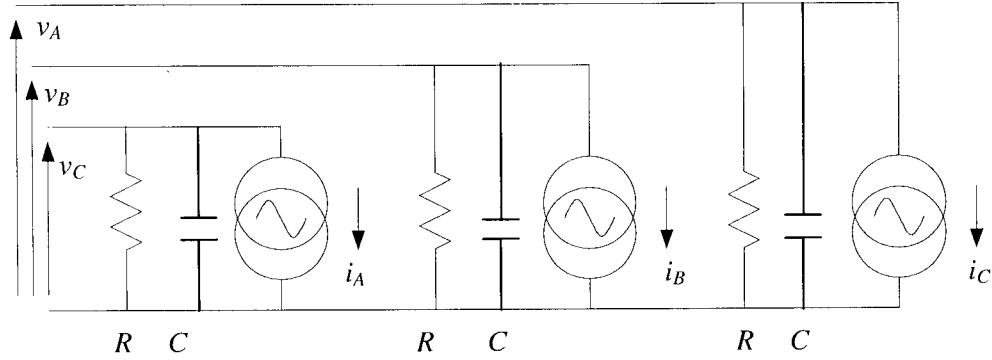

Figure 1
- (b) (i) Write a set of current equations to describe the circuit in figure 1 and transform them to dq form.